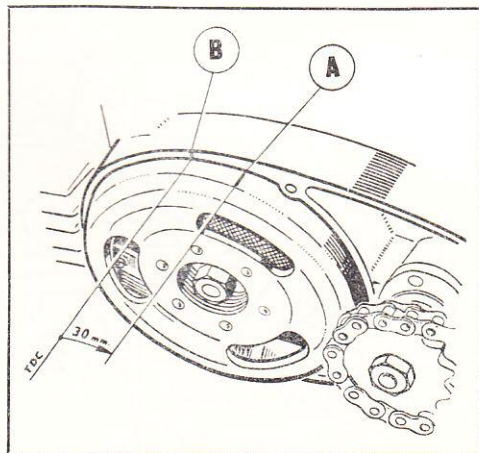

Fig. 7
Make two reference marks with a pencil, one on the flywheel (A) and the other on the crankcase (B), both in line. (See Fig. 7.) Rotate the flywheel backwards (in a clockwise direction) until the distance between